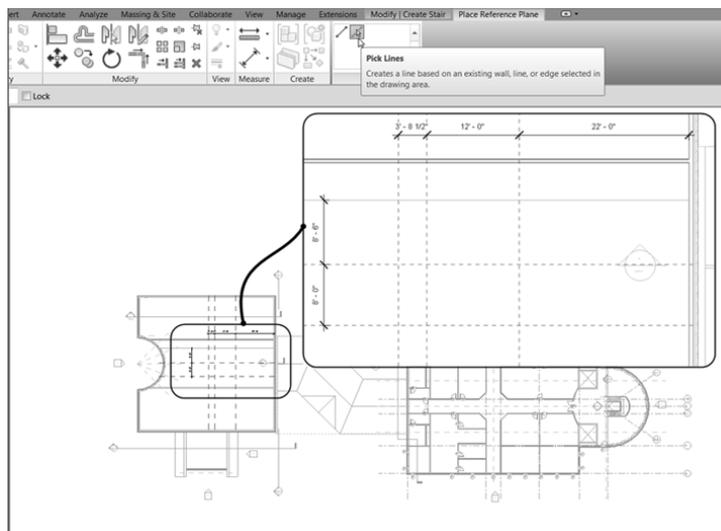

FIGURE 10.62: Using dimensions to lay out the centerlines of the stairs
2. Click the Pick Lines button, and then offset a grid, as shown in Figure 10.62.